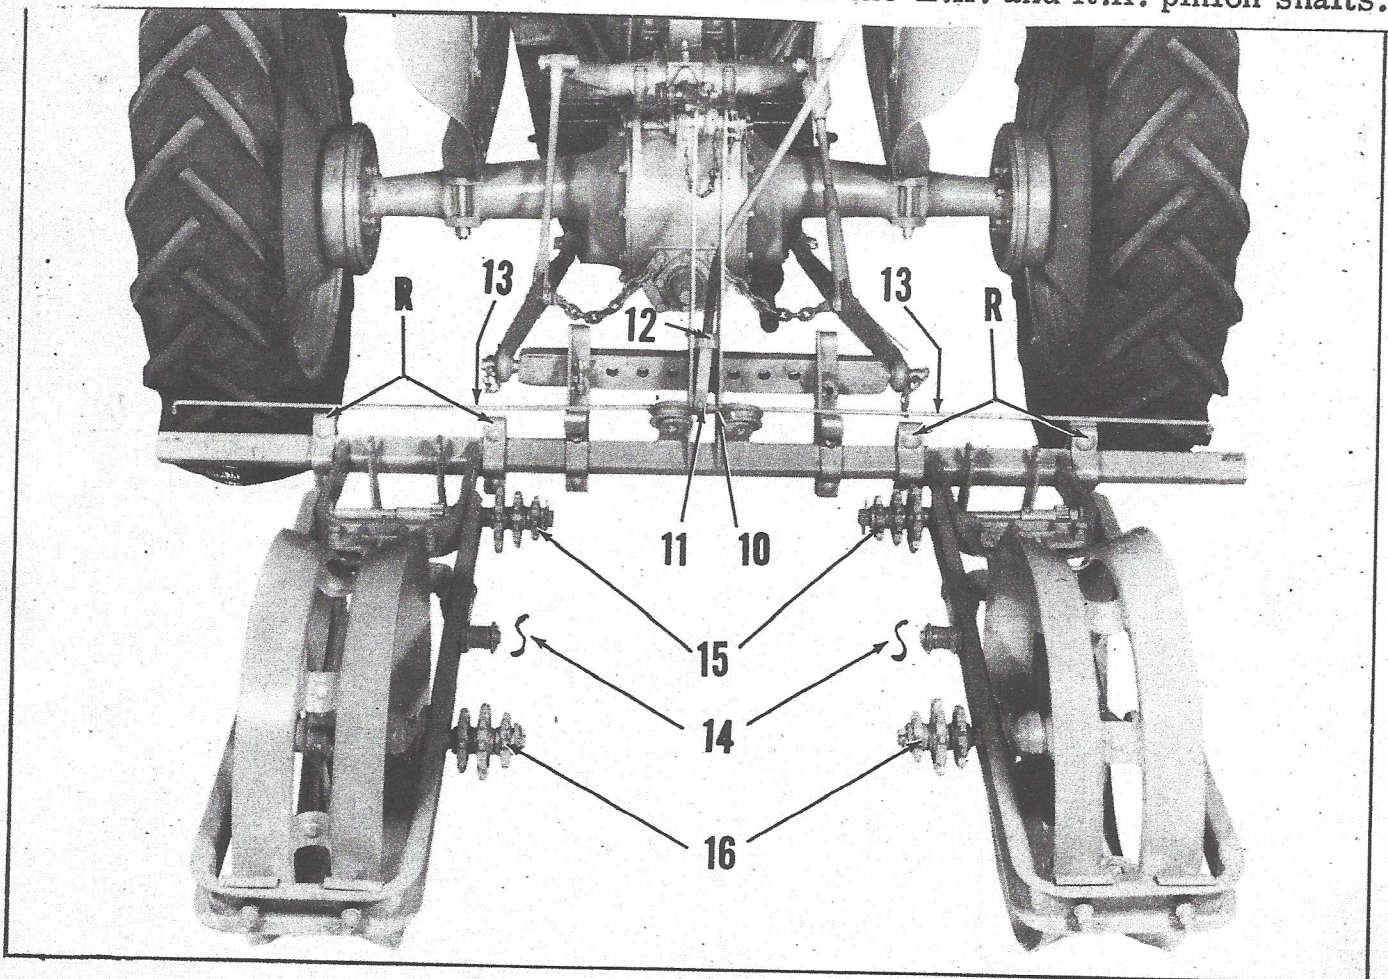

Fig. 9
14. Position L.H. and R.H. planter units to main frame, aligning with row spacing notches on main frame. The center notch on square bar is for 40'' rows. Clamp with $5/8''$ x $2-1/2''$ bolts at points R, Fig. 9. Bolt heads must be to rear.